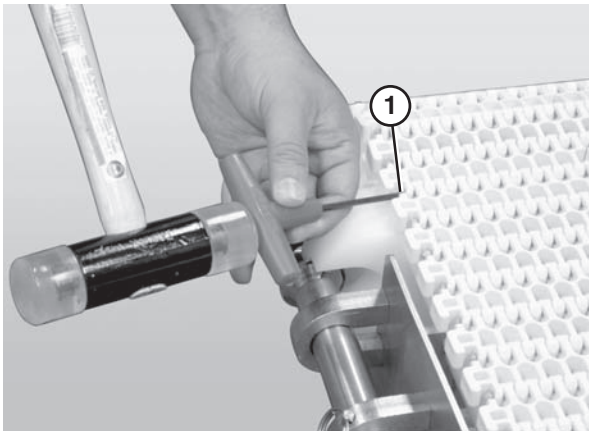

Figure 57
2. Use a punch and hammer to push the belt rod out by striking the rod end opposite the retaining head (Figure 57, item 1).